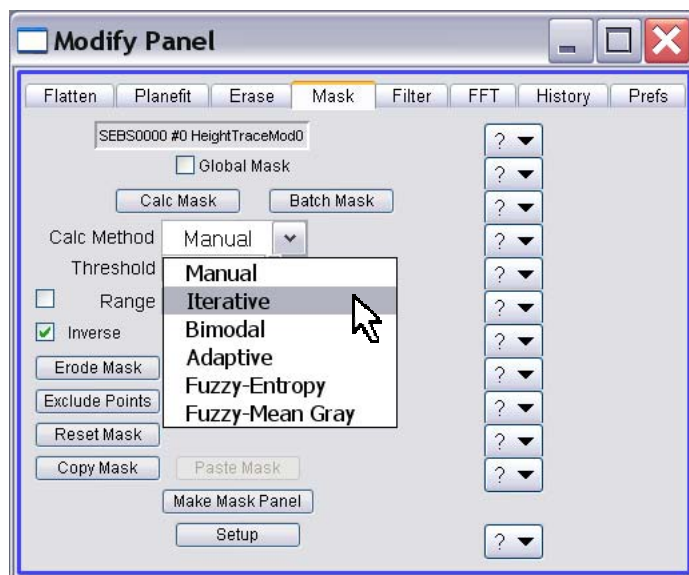

Figure 12.2.3.1: Mask tab of the Modify Panel
▪ Depending on the data features in the flattened data, there may be flattening artifacts (streaks) around the surface features/ asperities. To remove these features a plane fit and image Mask are most likely needed: *see Sections 12.2.2 & 12.2.3*. A sequence of removing such features (via flattening, plane fit & masking) can be seen in Figure 12.2.3.4.
Image masks save a great deal of time when omitting features from images that would otherwise create flattening artifacts (Figure 12.2.3.4A). Essentially, what the mask does is pick a defined plane / threshold in the Z axis and omit anything above, or below that threshold value.
✓Go to the *Mask* tab of the Modify Panel (Figure 12.2.3.1).
✓ Click the 'Calc Mask' button; Igor will determine a Z range that is generally close to the Z range that is needed to help clean up the image (to human perception; Figure 12.2.3.2B). Notice the 'Calc Method' has change to Manual- because a Z threshold value has been determined by the software.
① Manually enter a threshold range, and re-calculate the mask; the author generally does this to get a precise (yet subjective) position of the mask.
② Click the 'Erode Mask' button- this will make the mask a little smaller (Figure 12.2.3.2C).
③ Click the 'Dilate Mask' button- this will make the mask a little larger. (Figure 12.2.3.2D).
Figure 12.2.3.2: Creating image masks: A) after zero order flatten (*i.e.*, no mask); B) after Iterative mask result; C) Panel B) after Erode mask button click; D) Panel B) after Dilate Mask button click.
▪ The image can be re-flattened at this point to clean up any flattening artifacts (dark horizontal streaks in Figure 12.2.3.2- See Figure 12.2.3.4 for an example incorporating flattening, plane-fitting and image masks.
✓Click the 'Exclude Points' button in the *Flatten, Planefit, or Mask* tabs of the Modify Panel. This will bring up the Igor tool box (Figure 12.2.3.3). Lines, circles and the free hand tool can be used to make shapes on the image.
✓Click the 'Make Mask' Button; this will create the mask (Figure 12.2.3.3C- red lines).
▪ For additional shapes, choose from the Igor tool box; (ctrl + T, upper left box Figure 12.2.3.3A).
✓With the shape drawn, it can be moved while its still blue- use arrow keys for this (Figure 12.2.3.3C).
✓Click the 'Make Mask' Button (Figure 12.2.3.3D).
✓Make the whatever shape is needed- the Igor tool breaks them down into points- (Figure 12.2.3.3B)
▪ Figure 12.2.3.4 shows a typical sequence the author frequently uses to process most images-
1) Start with a zero order flatten and 1st order XY Planefit (Figure 12.2.3.4A).
2) Make an Iterative mask, fine tune with Manual mask setvar if not quite where it needs to be- quite often, the author places the mask on what is perceived to be the substrate (Figure 12.2.3.4B).
3) Reflatten (Figure 12.2.3.4C).
Figure 12.2.3.3: Using Exclude points masking feature: A) Igor tool box to make custom shape; B) free hand tool used to make shape on image; C) Addition ellipse shape made- blue shape indicated it can be moved on image with arrow keys; D) finished mask. *Data courtesy of Keith Jones, Asylum Research; sample courtesy J. Schlenoff, FSU Chemistry.*
Figure 12.2.3.4: Typical processing sequence of a Height image with surface features of raw data found in Figure 12.1.3: A) Zero order Flattening; B) First order XY PlaneFit; & Iterative Mask calculation; C) Subsequent zero Order Re-flattening; Mask is still present.